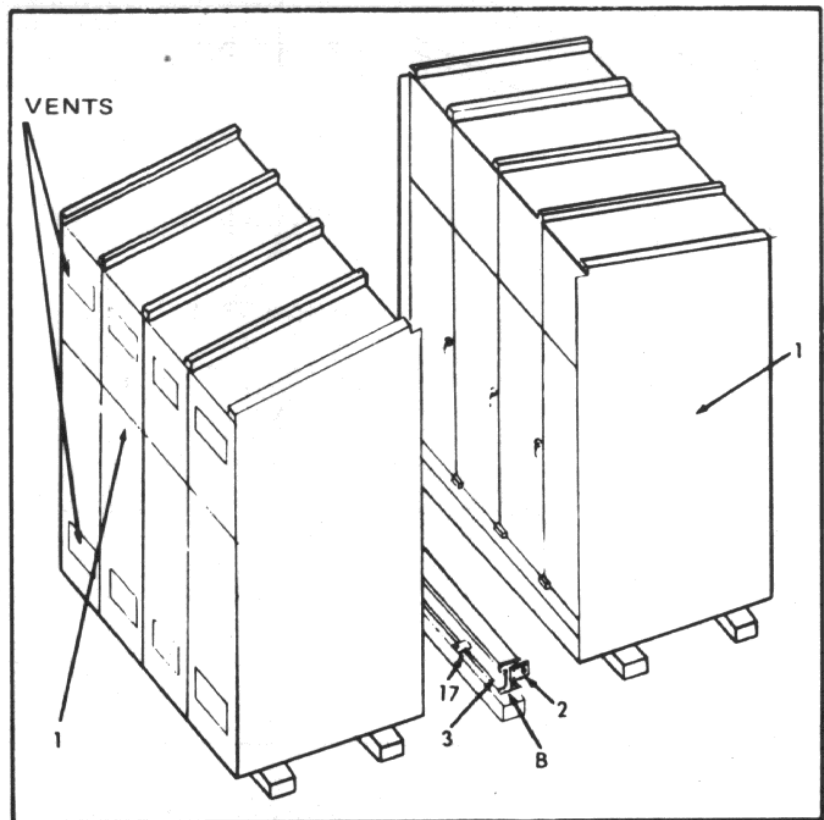
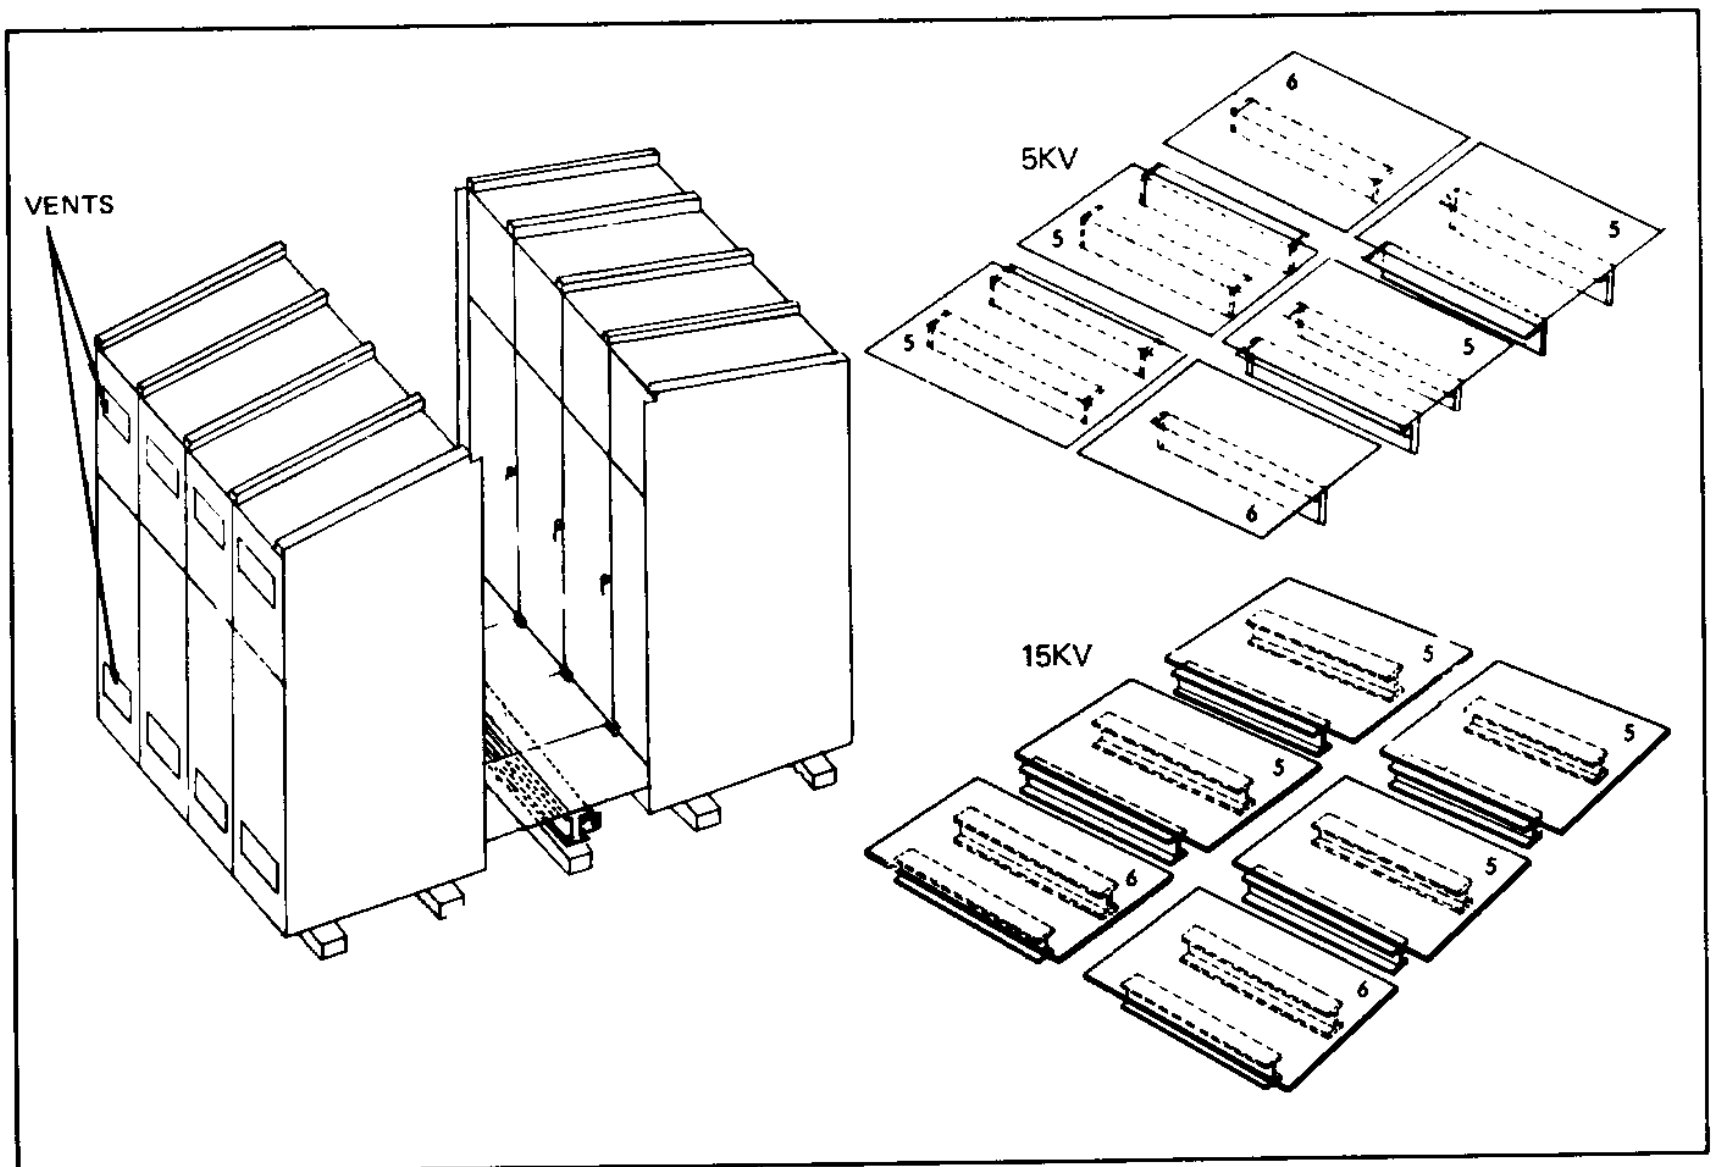

Figure 31. Initial Positioning — Common Aisle Layout
Figure 32. Floor Plate Installation – Common Aisle Layout
1. Place aisle beam (3) in position "B" and secure with anchor bolts. (See Figure 31).
2. Attach angle (2) to ends of aisle beam (3) as shown.
3. See Figure 32. Install all floor plates using 5 kv or 15 kv pattern shown. Each plate overlaps the supporting member of the next plate; determine sequence of installation. Place each set of floor plates to equalize the space between the floor plates and prevent a wide crack at end of group.